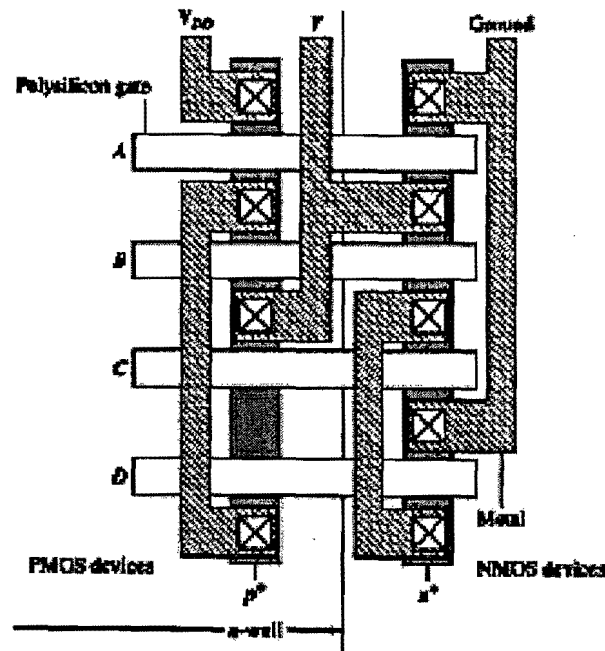

Figure 3
- (a) The simplified layout of a CMOS complex logic circuit is given by figure 3